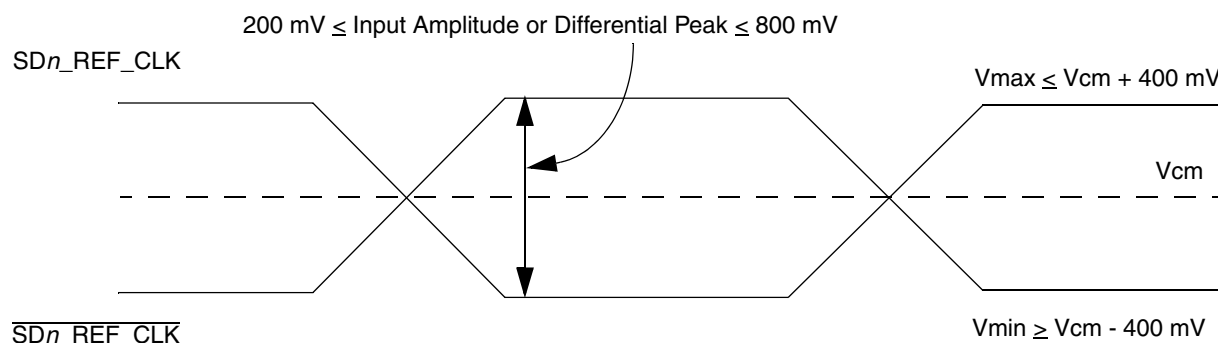

Figure 41. Differential Reference Clock Input DC Requirements (External AC-Coupled)
- For **external AC-coupled** connection, there is no common mode voltage requirement for the clock driver. Since the external AC-coupling capacitor blocks the DC level, the clock driver and the SerDes reference clock receiver operate in different command mode voltages. The SerDes reference clock receiver in this connection scheme has its common mode voltage set to SGND. Each signal wire of the differential inputs is allowed to swing below and above the command mode voltage (SGND). Figure 41 shows the SerDes reference clock input requirement for AC-coupled connection scheme.